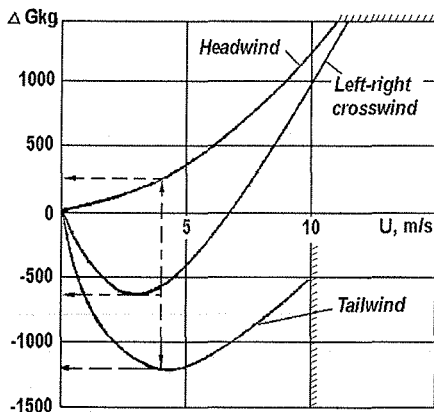

Fig.1.4. Maximum Weight Increment versus Wind Speed and Direction at Take-off and Landing In Ground Effect
(2) On the graph in Fig. 1.4, on the wind scale (U) find a point corresponding to a wind speed of 4 m/s, and draw a vertical line up to the curve marked "Headwind" (tailwind, left or right crosswind).